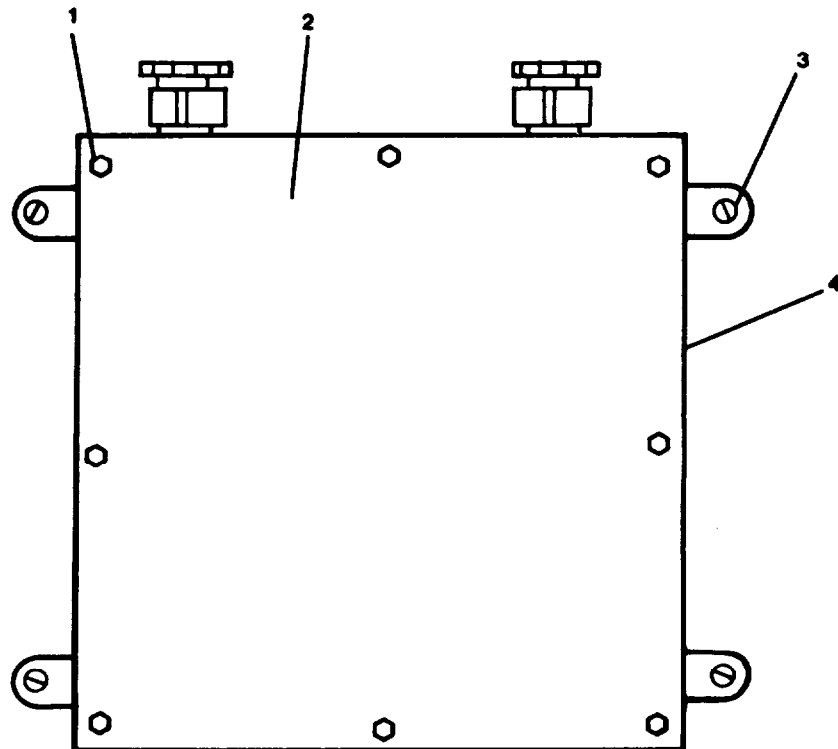

FIGURE 2-161. Lamp Ballast Replacement.
- (1) Remove 8 hexagon screws (2, FIGURE 2-161)
- (2) Remove cover (2).
- (3) Tag and disconnect electrical wiring.
- (4) Remove 4 screws (3). Remove lamp ballast (4).
- (1) Install lamp ballast (4, FIGURE 2-161). Secure with 4 screws (3).
- (2) Connect electrical wiring, remove tag.
- (3) Install cover (2). Secure with 8 hexagon screws (2).